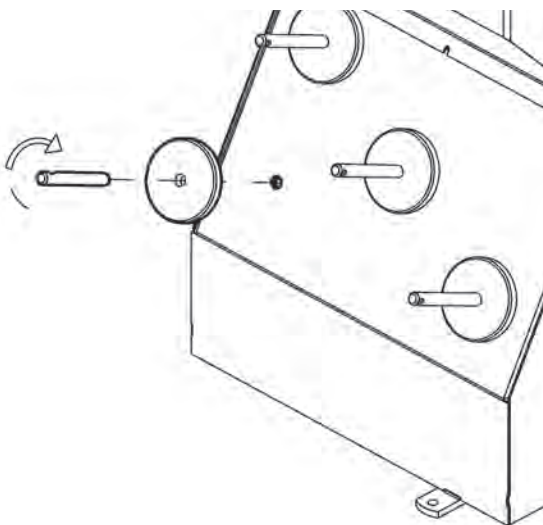

Figure 7
B. Install the accessory pins (Figure 7). Tighten firmly.